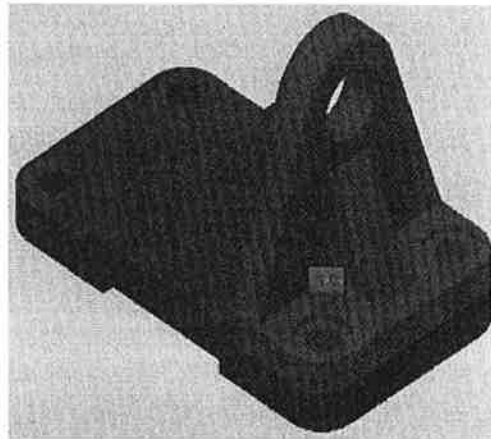

Figure 14-31
12. In the JOINT palette, click **OK** to complete the creation of the rigid joint. Figure 14-31 shows the joined components with the Rigid Joint icon () displayed.